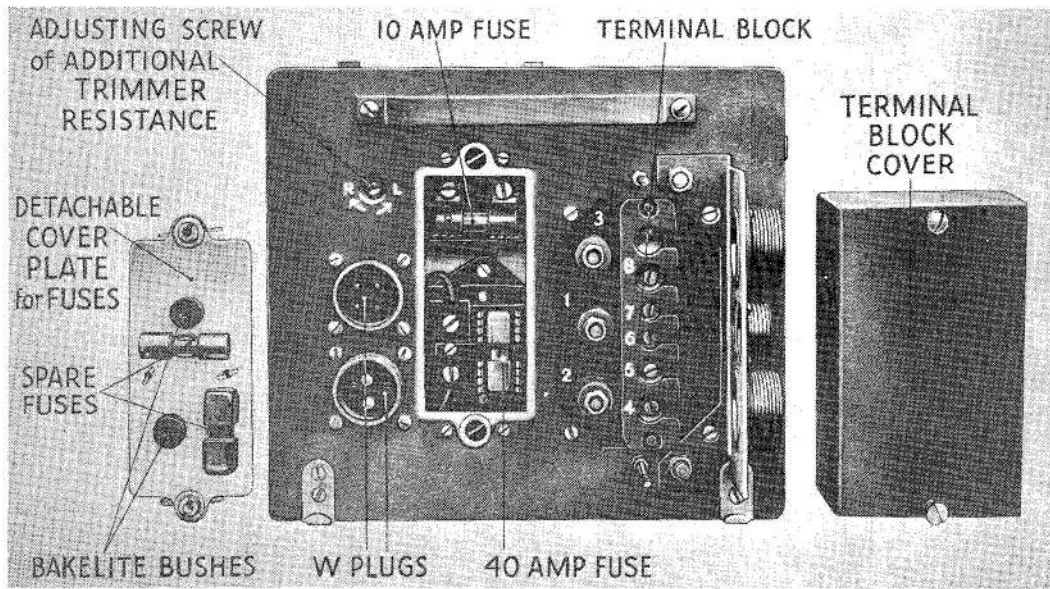

Fig. 1. Front of control panel
4. The control panel (*fig. 1*) consists of a right-angled sheet metal chassis, with a vertical plate forming the front of the panel, a base on which the components are mounted, and a ventilated cover secured by Dzus